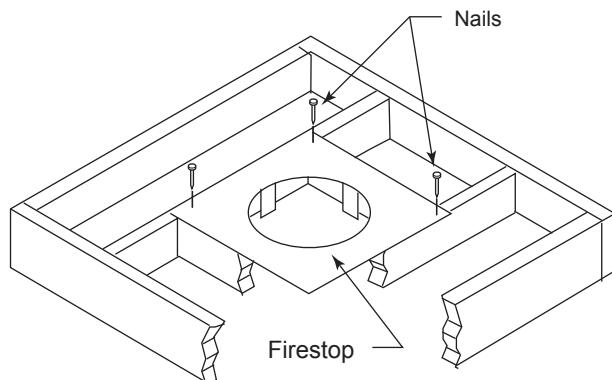
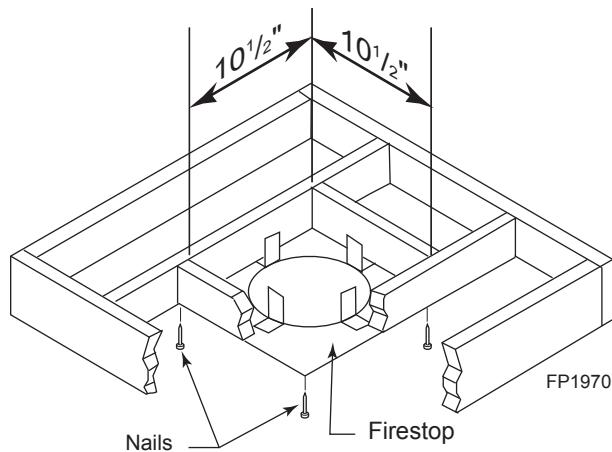

Figure 38 -
Figure 39 -
- Cut a 10½" (267 mm) square hole in the ceiling using the locating hole as a center point. The opening should be framed to 10½" x 10½" (267 x 267 mm) inside dimensions as shown in *Figure 39* using framing lumber the same size as the ceiling joist. If the area above the ceiling is an insulated ceiling or a room, nail firestop from the top side. This prevents loose insulation from falling into the required clearance space. *Figure 39*. Otherwise, install firestop below the framed hole. The firestop should be installed with no less than three (3) nails per side. *Figure 38* or *39*.